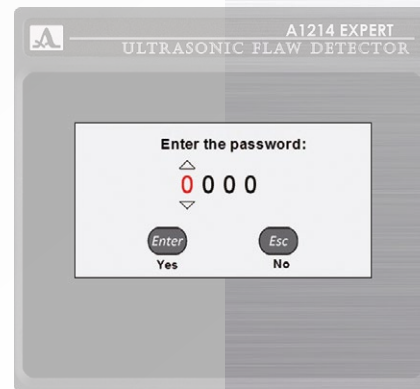

Figure 37
- a window for digital password entry will be opened (Figure 37). Default password is four “zero” characters (0000).